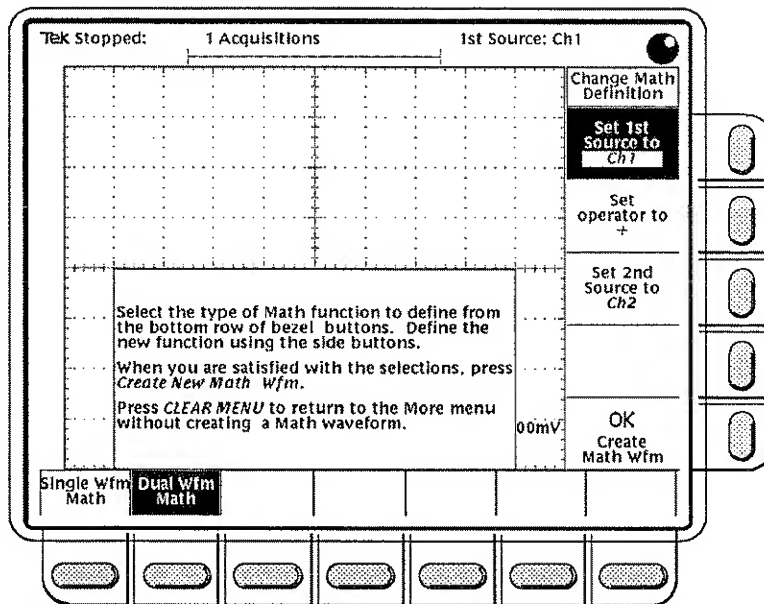

Figure 3-71: Dual Waveform Math Main and Side Menus
- **Step 4:** Select **Single Wfm Math** or **Dual Wfm Math** from the main menu. Choose the waveform(s) to operate on and the operator to use from the resulting side menus (Figure 3-71).